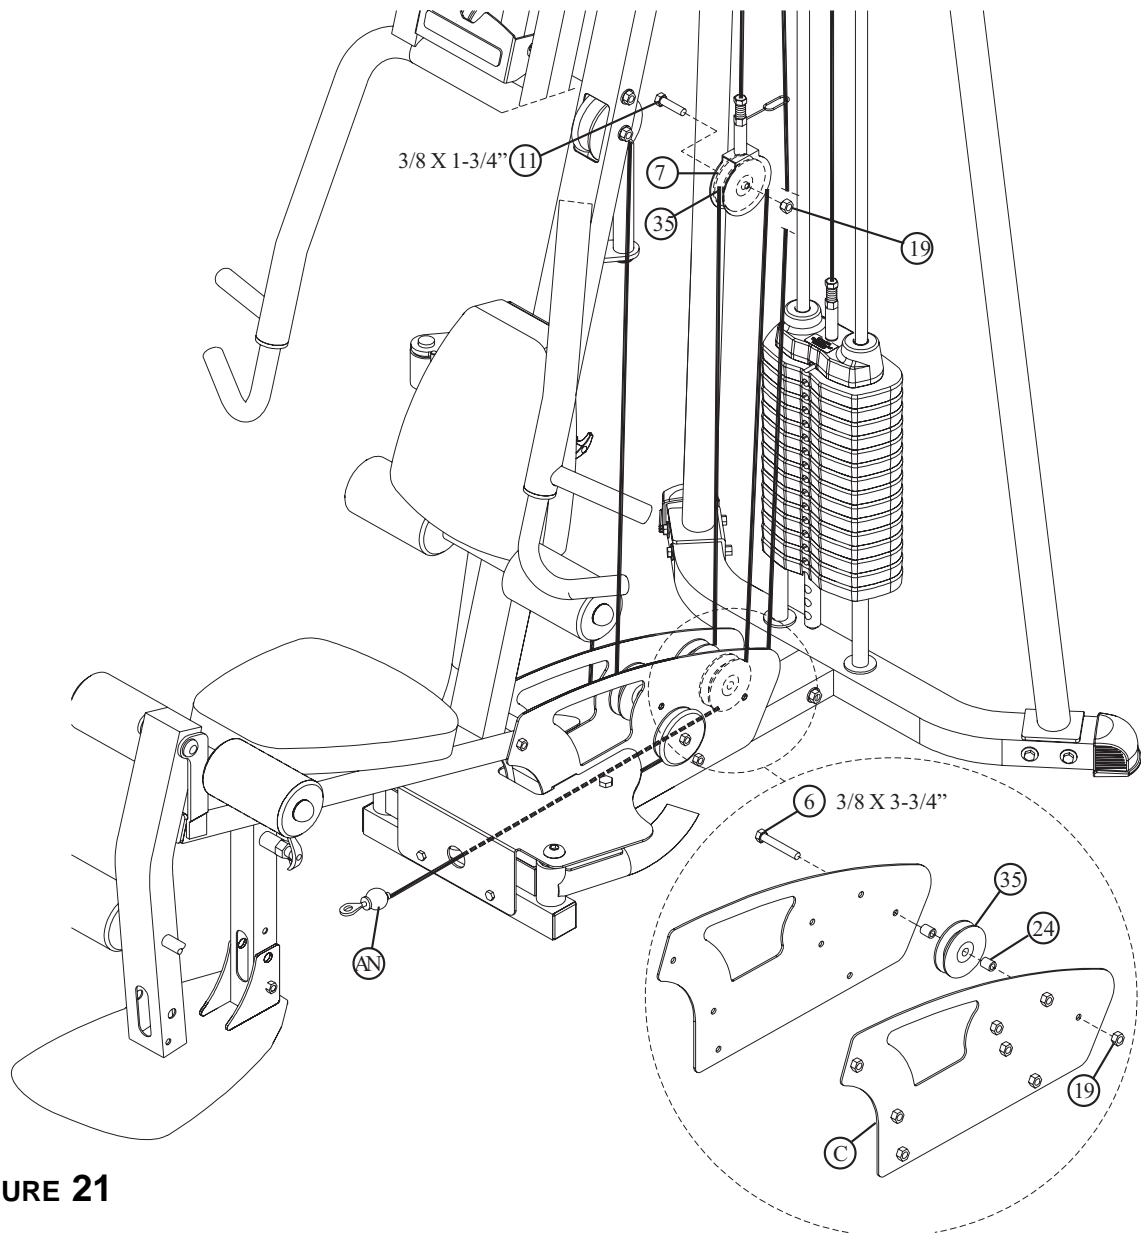

FIGURE 21
- Route the LOW CABLE (AN) around one 3-1/2" PULLEY (35) and assemble the PULLEY to the PULLEY BRACKET (Z) using one 3/8 X 1-3/4" BOLT (11) and one 3/8" SILVER LOCK NUT (19) as shown in FIGURE 21.
- Route the LOW CABLE (AN) through the BASE PLATES (C) and assemble one 3-1/2" PULLEY (35) to the BASE PLATES (C) using one 3/8 X 3-3/4" BOLT (6), two 1" SPACERS (24) and one 3/8" SILVER LOCK NUT (19). See FIGURE 21.
- SECURELY assemble the LEFT SHROUD (1) and RIGHT SHROUD (2) to the TOP (3) and BOTTOM (4) SHROUD BRACKETS using eight 3/8 X 1" BUTTON HEAD BOLTS (5) and eight 3/8" BLACK SAE WASHERS (6) as shown in FIGURE 21.